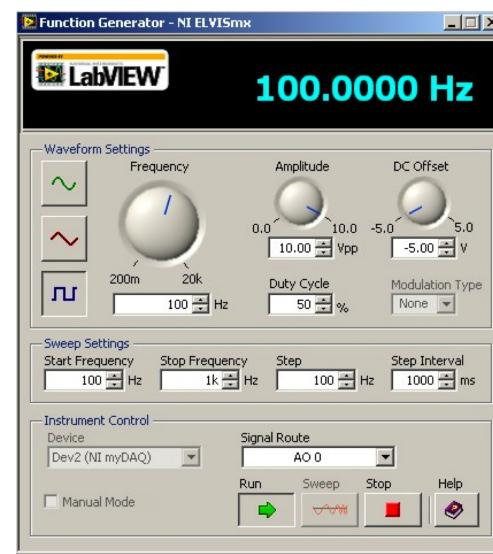

Figure 3: Function Generator Settings
1. Launch the Function Generator and set it up as shown in Figure 3.